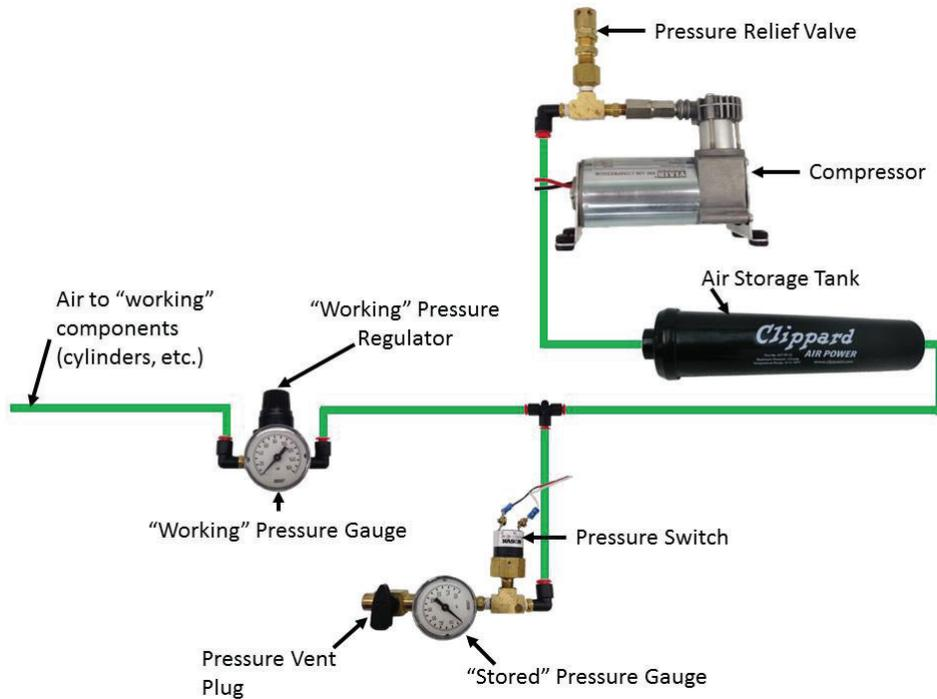

Figure 10-14 Pneumatic circuitry
**R85.** If pneumatic COMPONENTS are used, the following items are required as part of the pneumatic circuit and must be used in accordance with this section, as illustrated in Figure 10-14.
**A.** One (1) *FIRST* Robotics Competition legal compressor (per R86)